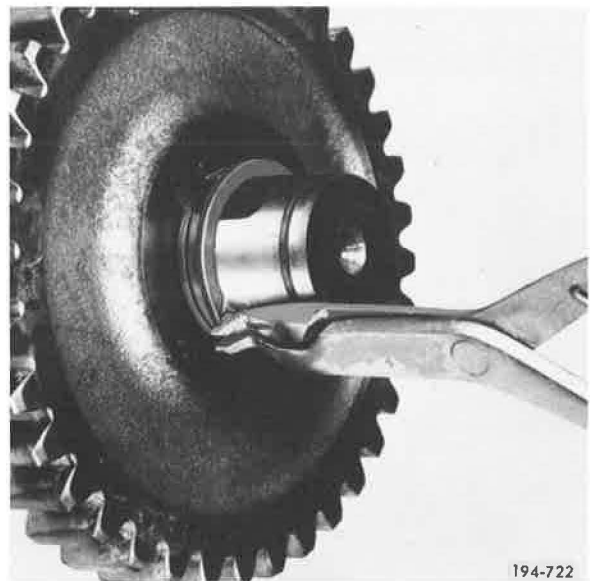

Figure 302. Installing Snap Ring
5. Install gear retaining snap ring, using snap ring pliers J-25445 or equivalent. See Figure 302.